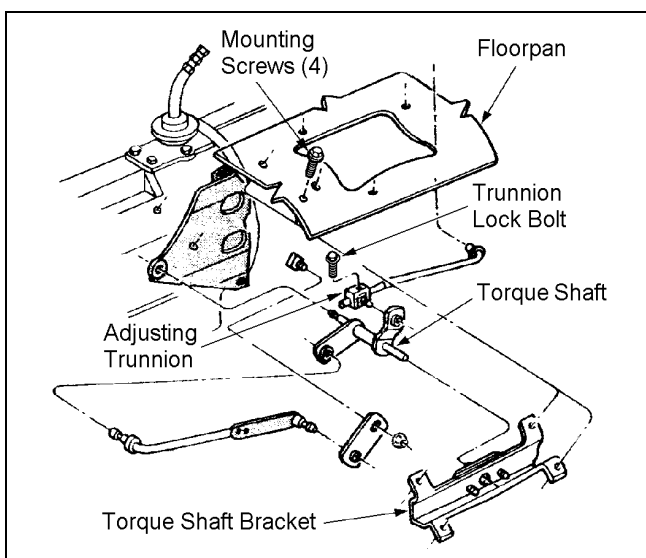

Figure 20
- 2) ☐ Remove the four screws that attach the torque shaft bracket to the floor pan. See figure 20.
- 5) ☐ Using bracket 176090 as a template, mark the two mounting holes locations on the torque shaft bracket. See figure 20. Drill a 9/32" hole at each location.